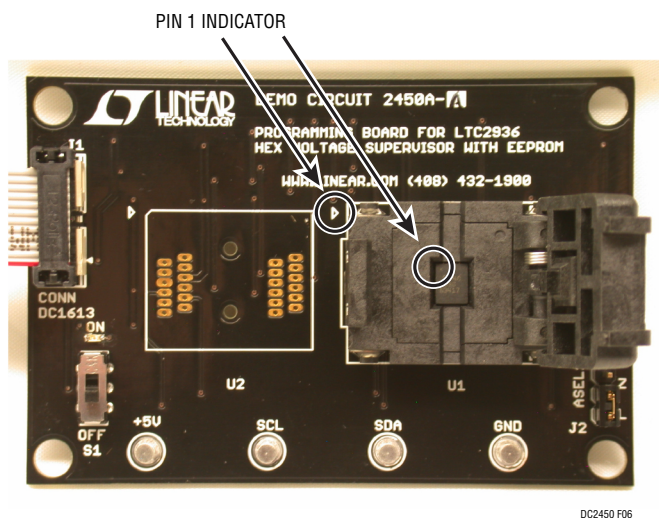

Figure 6. DC2450A-A and IC Installed
4. If using DC2450A-A, flip open the socket lid and place the IC inside with pin 1 located in the upper left corner. See Figure 6.